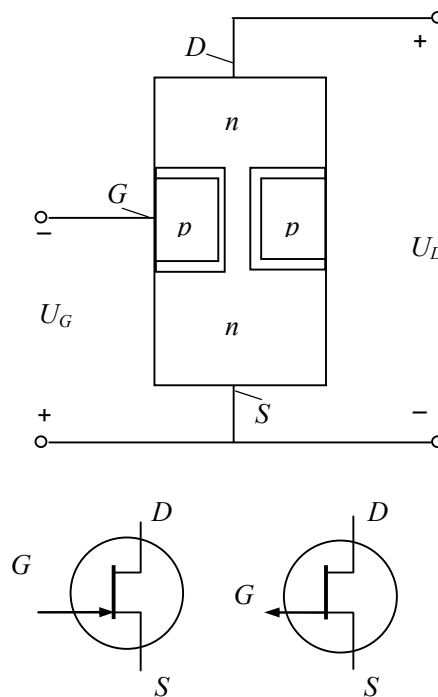

Fig. 1.32
**Structure.** Fig. 1.32 illustrates the normal way to bias a JFET. The bottom lead is called a *source*, and the top lead is a *drain*. The source and the drain of a JFET are analogous to the emitter and collector of the bipolar transistor. In the case of a *p-channel* JFET, a *p*-type material with different islands of *n*-type material is used. The action of a *p-channel* JFET is complementary, which means that all voltages and currents are reversed.
Fig. 1.32 shows schematic symbols of  $n$ -channel and  $p$ -channel JFETs also. A schematic symbol of the  $p$ -channel JFET is similar to that of the  $n$ -channel JFET, except that the gate arrow points from the channel to the gate.